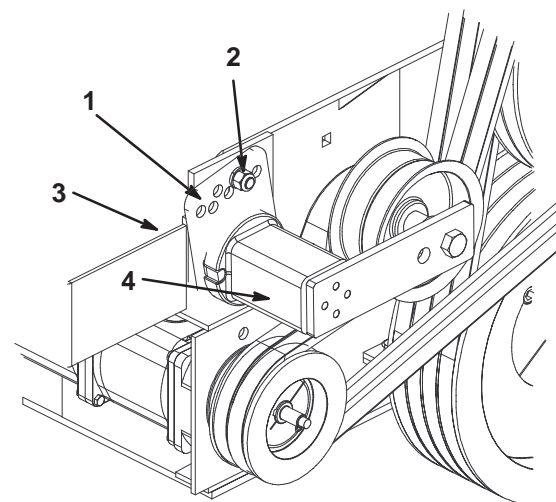

Figure 17
3. Remove capscrew and nut securing tensioner guide to drive mount (Fig. 17). Belt tension will be released when capscrew is removed.